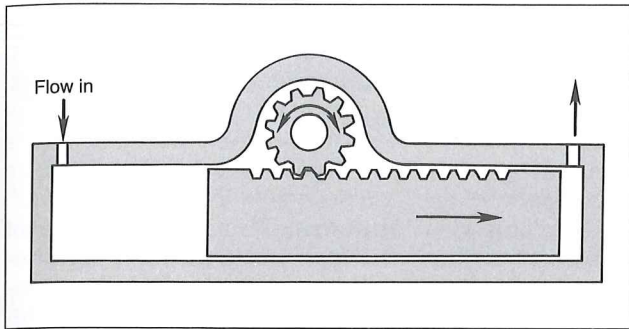

Fig. 9-21 — Fluid pressure slides the rack and rotates the pinion in this rotary actuator.
**Rack-and-pinion actuators.** This type of actuator uses fluid pressure to drive a piston connected to a gear rack, which rotates a pinion, Fig. 9-21. Standard units are available that rotate either 90, 180, or 360°. Some actuators have two parallel piston-rack units; this doubles output torque. Outputs exceeding 30 million lb-in. are available.